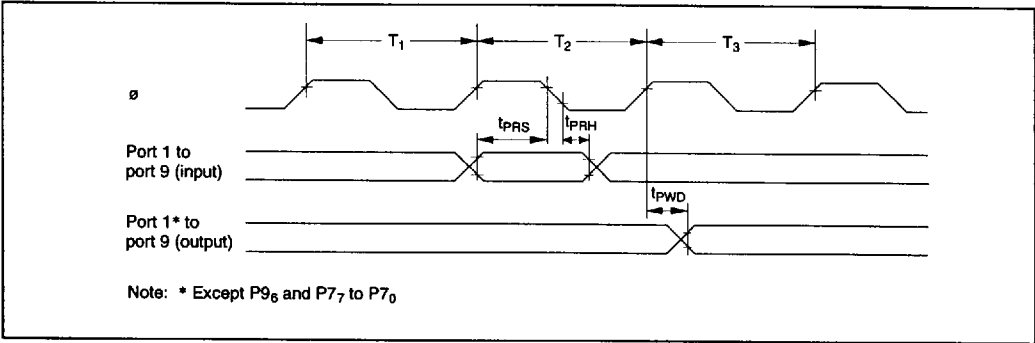

Figure 22-18 I/O Port Input/Output Timing
22.3.7 I/O Port Timing	Figure 22-18